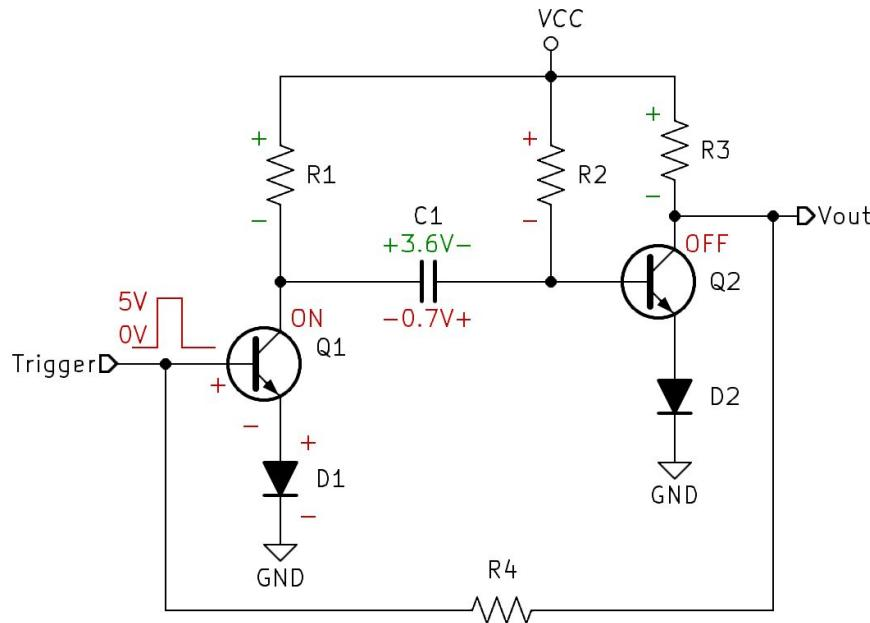

Figure 12.6: Bipolar Junction Transistor Monostable Multivibrator Un-Stable State
- Observe Figure 12.6. As Q1 is biased on from the Trigger signal, Q2 initially will see -3.6V at its base which will turn Q2 off. C1 will begin to discharge the -3.6V through the path of R2, Q1, and D1. Once discharged Q2 will begin to charge and once it reaches 0.7V, the base of Q2 will now have 1.4V ($V_{C1} + V_{D1}$) this will turn on Q2 which will then force Q1 back off returning the circuit to its stable state.